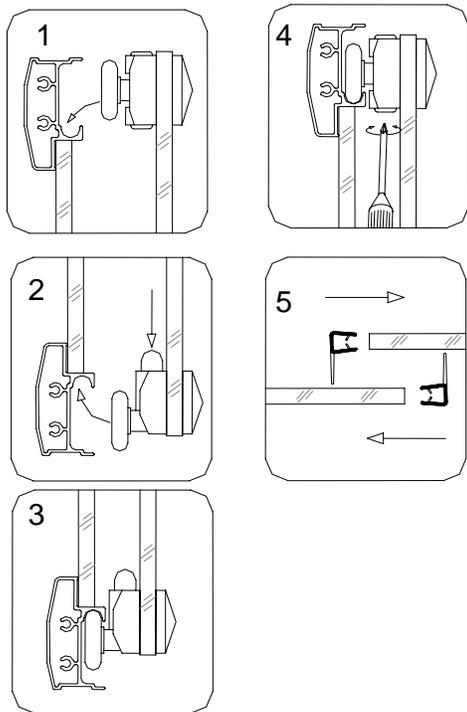

Fig 9
10. Mount the **Handle (07)** to the **Glass door (06)**. Slide the top door wheels into the top guide rail and push the bottom wheels in the bottom guide rail by pressing down the button. Use the Phillips screwdriver #2 (do not use power screwdriver) to adjust the upper wheels, make sure they move smoothly and the door is closing properly. Then attach the **Anti-water strips (08)**. See fig. 9 for details.